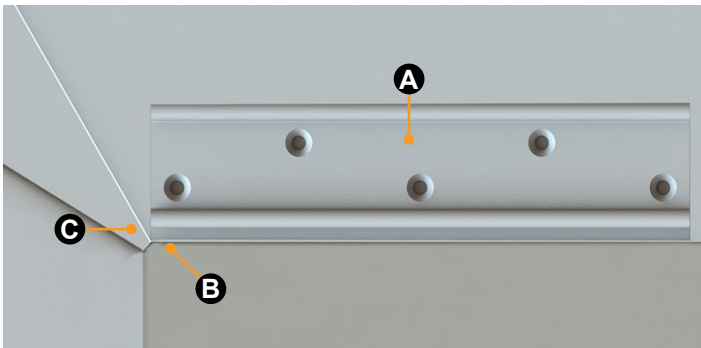

Fig.9
1. Install the access plate below the T-molding (Fig.8) or on the T-molding (Fig.9).
NOTE: If installing the slide topper access plate on the T-molding, see "Installing Solera Slide Topper Access Plate" section (Fig.9), use the first extrusion from the top of the access bracket method (Fig.11A).